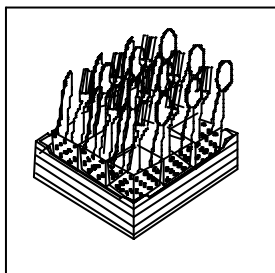

Fig. 9
- Put cutlery in the cutlery baskets handles down. Spoons, knives and forks can be mixed (Fig.9)